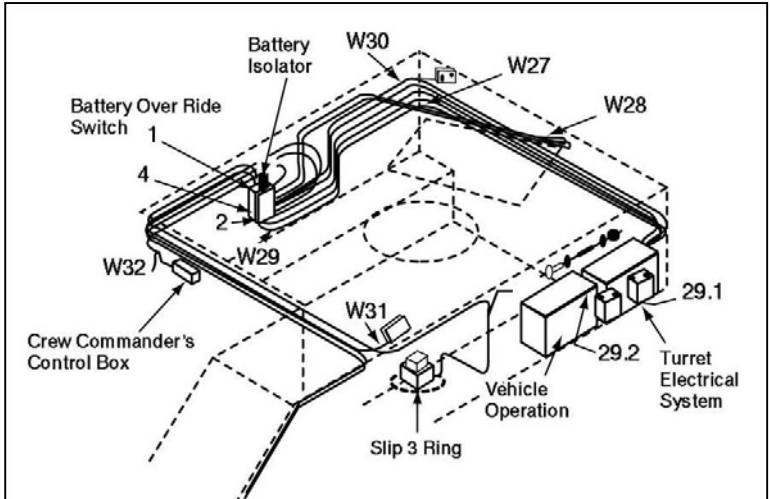

Figure 4-2-1: 24 Volt Power Supply
10. **24 Volt Power Supply.** The 24 V power supply (see Figure 4-2-1) is located in the boxes behind the loaders seat backrest and consists of four 12 V dc batteries. The rear two batteries are connected in series to supply 24 V dc to the turret electrical system and the internal lighting of the APC. The front two batteries supply 24 V dc for the vehicle operation.